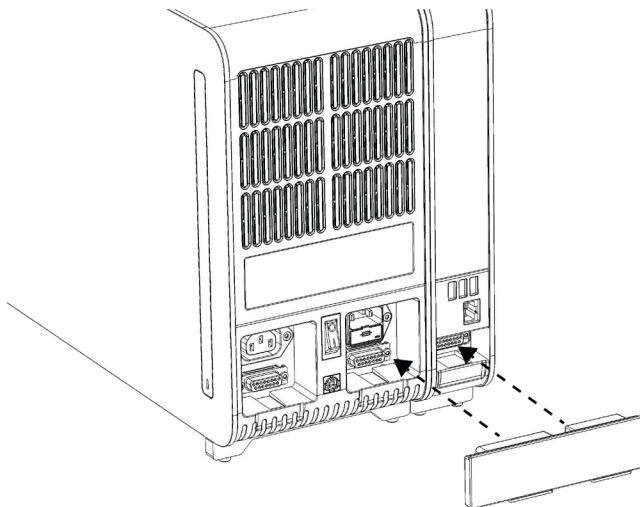

Figure 8. Connecting the Analytical/Operational Module Bridge.
5. Connect the Analytical/Operational Module Bridge at the back of the QIAstat-Dx Analyzer 1.0 to link the Operational and Analytical Modules together (Figure 8).